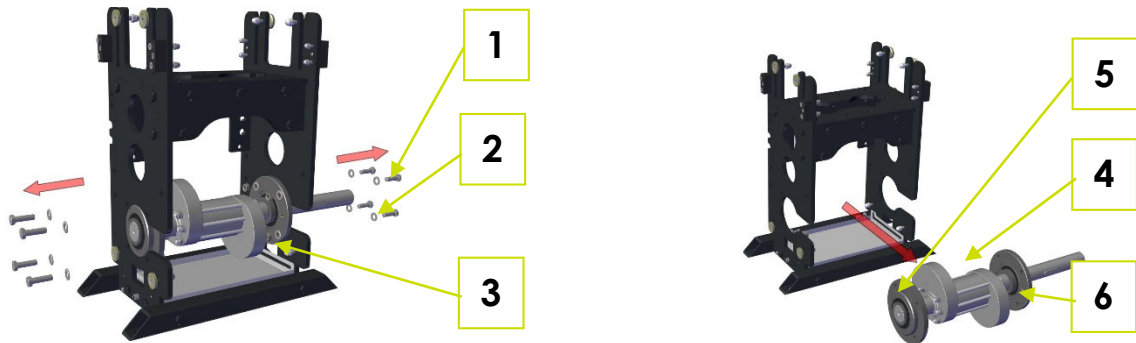
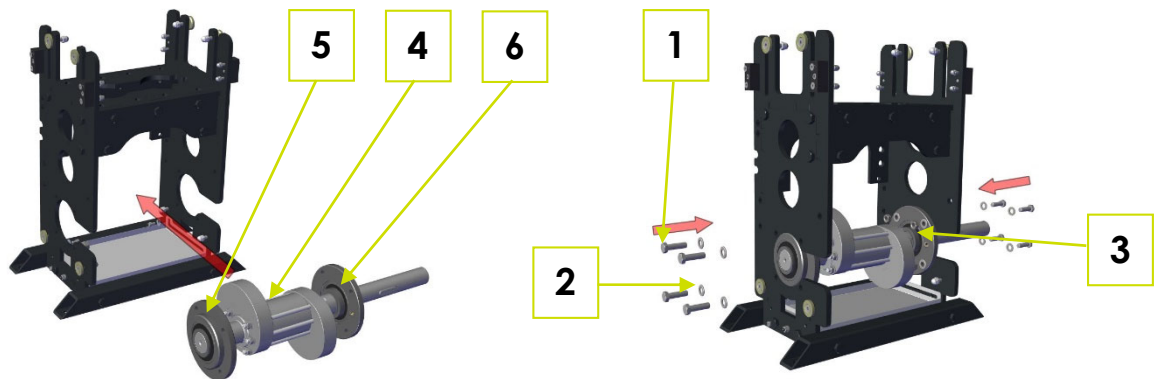
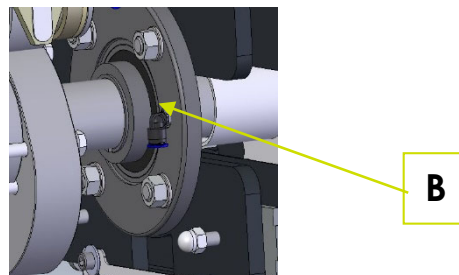

Fig. 8-2: Dismounting the drive train
Fig. 8-3: Mounting the drive train
Fig. 8-4: Mounting the drive train Lubrication lines on the right side
1. Disconnect the lubrication lines from the fixed bearing (6) and loose bearing (5) (see Fig. 8-4: Mounting the drive train Lubrication lines on the right side) (see Fig. 8-2: Dismounting the drive train)
2. Dismount and remove eight hexagon screws M10x20 (1), washers (2) and hexagon nuts M10 (3) (Fig. 8-2: Dismounting the drive train).
3. Remove the castle nut from the fixed bearing (6) (see section 12.6 "Manufacturer's instructions for fixation of the tensioning bearing") and slide the bearing housing to the cam disc.
4. Pull out drive train (4) to the side.
When installing, ensure that the connections B (Fig. 8-4: Mounting the drive train Lubrication lines on the right side) of the lubrication lines of the loose bearing and fixed bearing are on the right side of the Piston pump.
1. Introduce drive train (4) into the Piston pump (Fig. 8-3: Mounting the drive train) from the side.
2. Hand-tighten hexagon screws M10x20 (1), with washers (2) and hexagon nuts M10 (3) with washers (2).
3. Fasten all eight hexagon screws M10x20 (1) and hexagon nuts M10 (4) to 35 Nm.
4. Mount (Fig. 8-4: Mounting the drive train Lubrication lines on the right side) the lubrication line of the fixed bearing (6) and the loose bearing (5) (Fig. 8-3: Mounting the drive train)